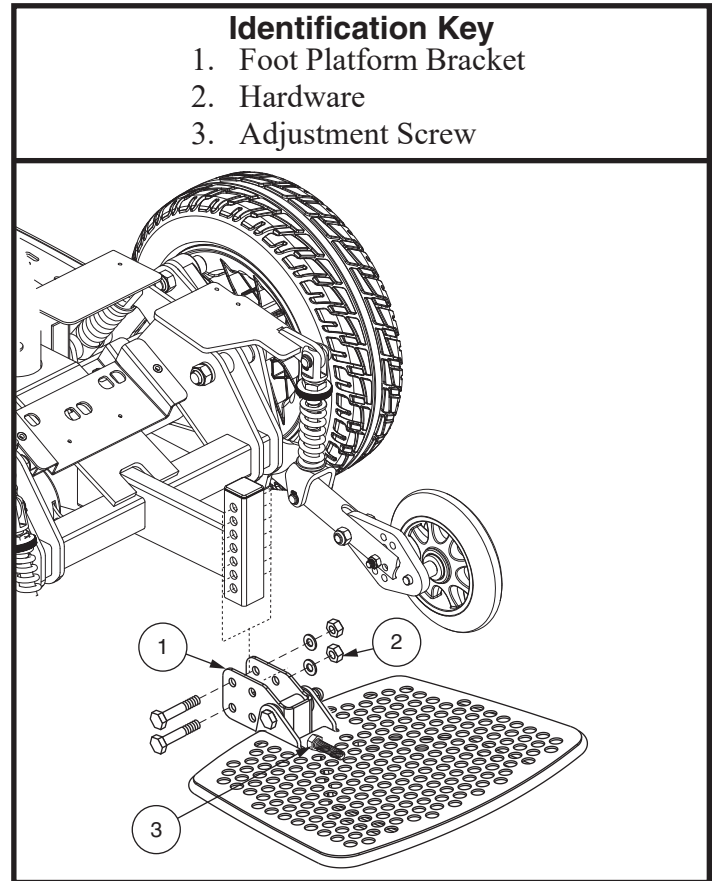

Figure 16. Select Foot Platform Adjustment
1. Remove the hardware from the foot platform bracket. **See figure 16 or 17.**
You can adjust the angle of the foot platform. **See figure 16 or 17.**